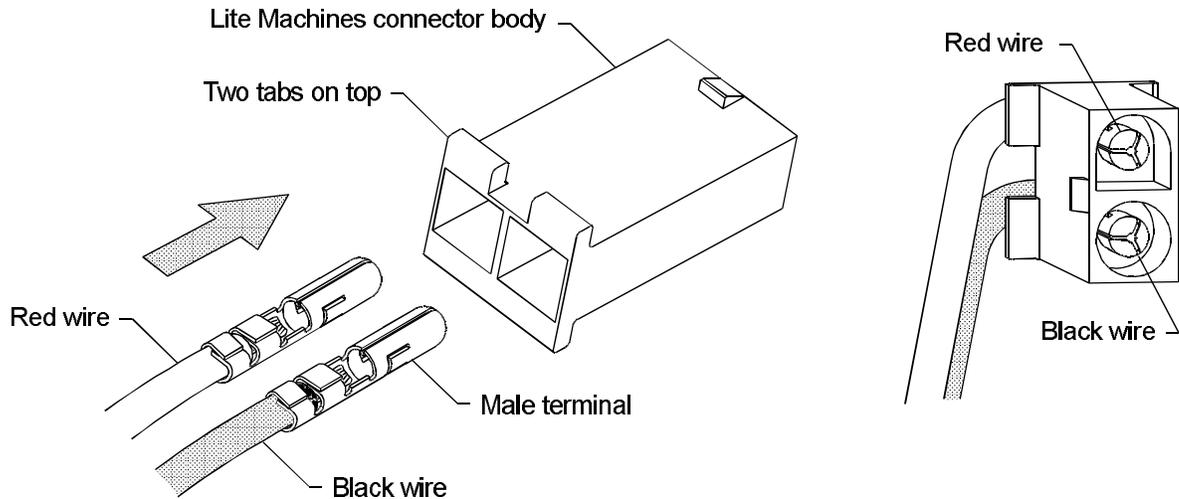

Figure 7-2.
- 3. Push the connector terminals into a Lite Machines connector body as shown in Fig. 7-2. **NOTE THAT THE BLACK-WIRE TERMINAL GOES INTO THE CIRCULAR BODY OPENING, AND THE RED WIRE TERMINAL GOES INTO THE BULLET-SHAPED OPENING.**